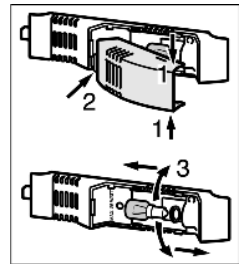

Fig. 3
- ▶ Take hold of the lamp cover at the top and bottom *Fig. 3 (1)*.
- ▶ Disengage the lamp cover at the back and detach it *Fig. 3 (2)*.
- ▶ Replace the bulb *Fig. 3 (3)*.